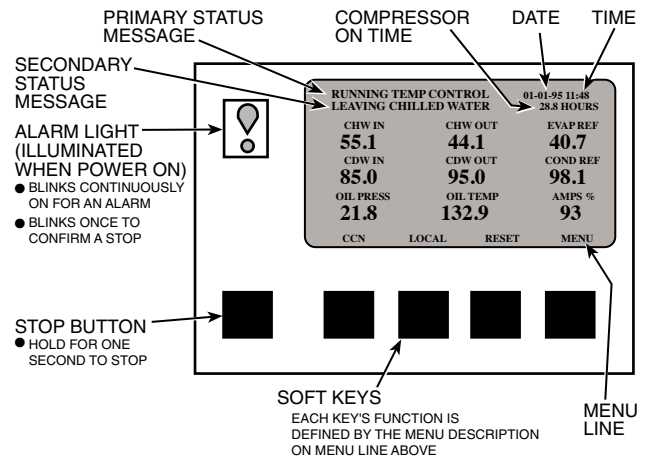

Fig. 14 — CVC Default Screen
- The CVC display automatically reverts to the default screen after 15 minutes if no softkey activity takes place and if the chiller is not in the pumpdown mode (Fig. 14).